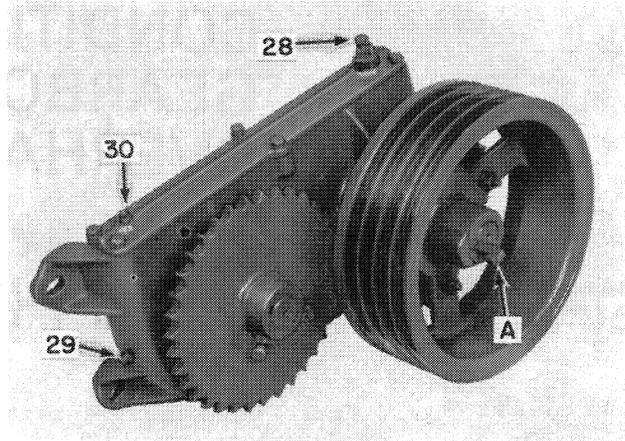

FIGURE 2
Type 2 Gearboxes used as original equipment on the Model 1114 and, as the latest Service Parts replacement gearbox, have a gib key to retain the sheave at A, Figure 2.
2. Remove drain plug (29), Figure 2, to drain oil from the gearbox.
| 12. Sprocket, lower roll drive | 28. Fill plug and breather (Figure 2) |
| 13. Right output bearing cone | 29. Drain plug (Figure 2) |
| 14. Right output bearing cup | 30. Check plug (Figure 2) |